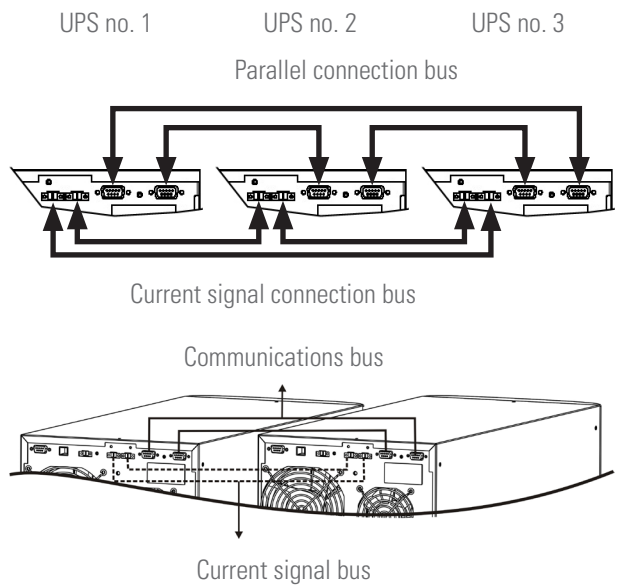

Fig. 18. Communication and current signal bus connection.
- **Current signal connection bus.** Use the hose with connectors at the ends to join the devices and close the current bus when connecting two consecutive devices through the connectors, as shown in Fig. 18. Lastly, close the bus loop between the last and first devices.
Fig. 18 shows an installation with three devices in parallel. Proceed by closing the communications bus and current signal bus.